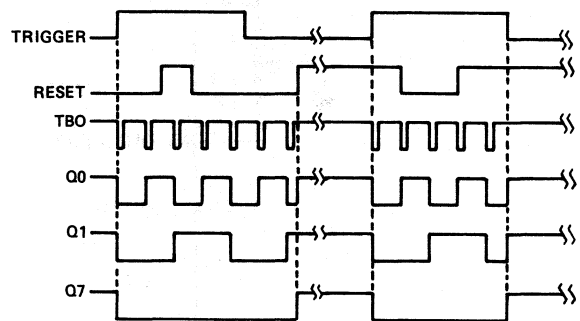

FIGURE 5—TIMING DIAGRAM OF
Figure 5 shows voltage waveforms for typical operation of the uA2240. If both reset and trigger inputs are low during power-up, the timer/counter will be in a reset state with all binary (Q) outputs high and the oscillator stopped. In this state, a high level on the trigger input starts the time-base oscillator. The initial negative-going pulse from the oscillator sets the Q outputs to low logic levels at the beginning of the first time-base period. The uA2240 will ignore any further signals at the trigger input until after a reset signal is applied to the reset input. With the trigger input low, a high level at the reset input will set Q outputs high and stop the time-base oscillator. If the reset signal occurs while the trigger input is high, the reset is ignored. If the reset input remains high when the trigger input goes low, the uA2240 will reset.